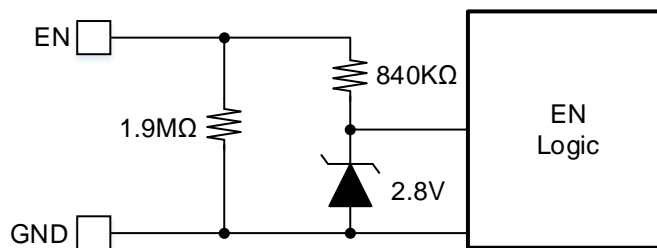

Figure 8. Zener Diode between EN and GND
Enable (EN) is a digital control pin that turns the regulator on and off. Drive EN high to turn on the regulator; drive EN low to turn off the regulator. An internal 1MΩ resistor from EN to GND allows EN to be floated to shut down the chip. EN is clamped internally using a 2.8V series Zener diode (see Figure 8). Connecting the EN input through a pull-up resistor to the voltage on VIN limits the EN input current below 100μA, preventing damage to the Zener diode.